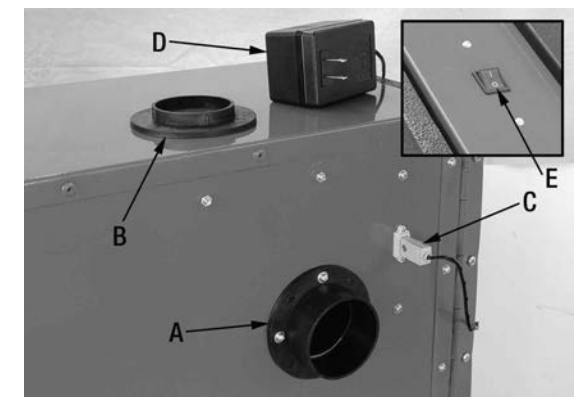

FIGURE 12
- 13) This Sandblast Cabinet comes with an LED light inside the cabinet. To use the LED light, connect the power adaptor connector (C) Fig.12. Connect the 120V plug end (D) into a suitable power outlet, and turn the LED light on by using the On/Off switch (E) at the front of the cabinet.